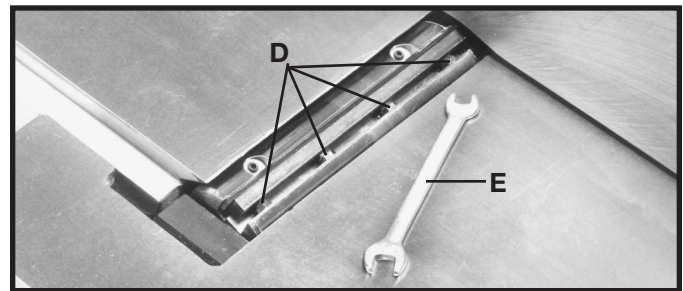
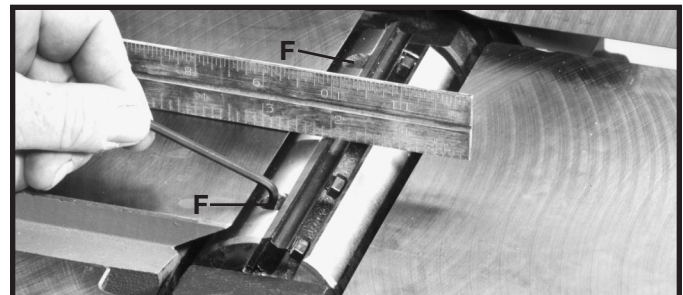

Fig. 41
Fig. 42
5. If the knife is high or low at either end, slightly turn the four screws (D) Fig. 41, in the knife locking bar clockwise to loosen using the wrench (E) supplied. Then adjust the height of the knife by turning the knife raising screws (F) Fig. 42, counterclockwise to lower and clockwise to raise the knife.
If the knife is to be lowered it will be necessary to carefully push down on the knife with a scrap piece of wood, after screws (F) have been turned. Tighten four screws (D) Fig. 41, by turning them counterclockwise, after adjustment is made.